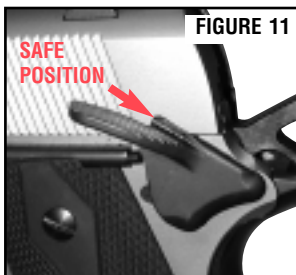

FIGURE 11
- With the muzzle pointed in a safe direction and your finger outside the trigger guard, place the safety lever in the fully up "safe" position (Figure 11).
- Ensure that the hammer is fully rearward and then place the safety lever in the fully up “safe” position. (Figure 11)